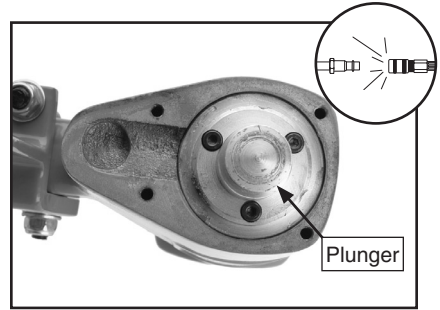

Figure 11. Removing the plunger.
- Unscrew the cap screws and remove the plunger (see **Figure 11**).